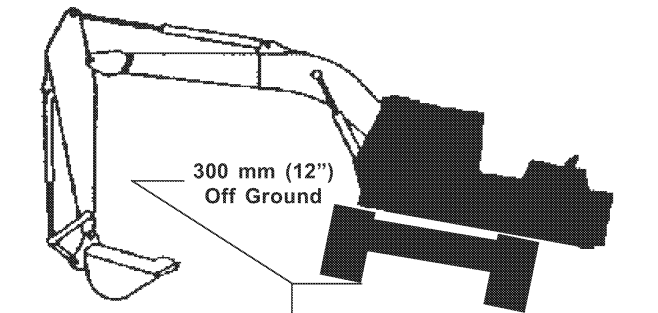

FIGURE 7.4
4. Operate the Boom, Arm and Bucket Controls until bucket is on ground. See Figure 7.4.
5. Operate Boom Control until bottom of right track is approximately 300mm (12") off ground. See Figure 7.4. Make reference mark on track.